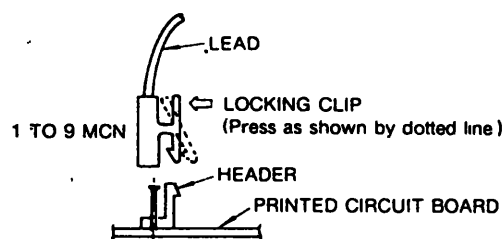

Fig. 9.1 Removal of Connectors
1. Unplug the nine emitter-base-collector connectors (1 to 9MCN) from base drive board. See Fig. 9.1.